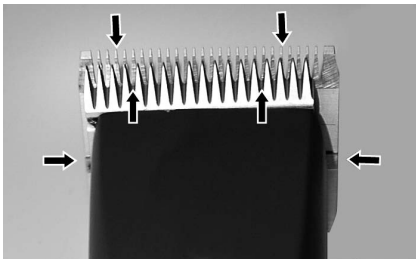

fig. 22
To receive good clipping results and to increase the durability of the clipper and the clipperhead, it is necessary to apply a thin oil coat between top and bottom blade (fig. 22).
- Lubricate the blades sufficiently during the clipping (at least every 15 minutes), so that they do not drain (fig. 22).
The blades must be oiled before, during and after every use. When the blades of the clipper are leaving stripes or are running with reduced speed, this is a signal that oil is required. Place a few drops of oil ahead and laterally on the clipper blades (see arrows in fig. 22). Wipe off the excessive oil with a smooth, dry cloth. Lubrication sprays do not have sufficient oil for a good lubrication, but serve for cooling the blades. Immediately change damaged or crenated blades to avoid injuries.